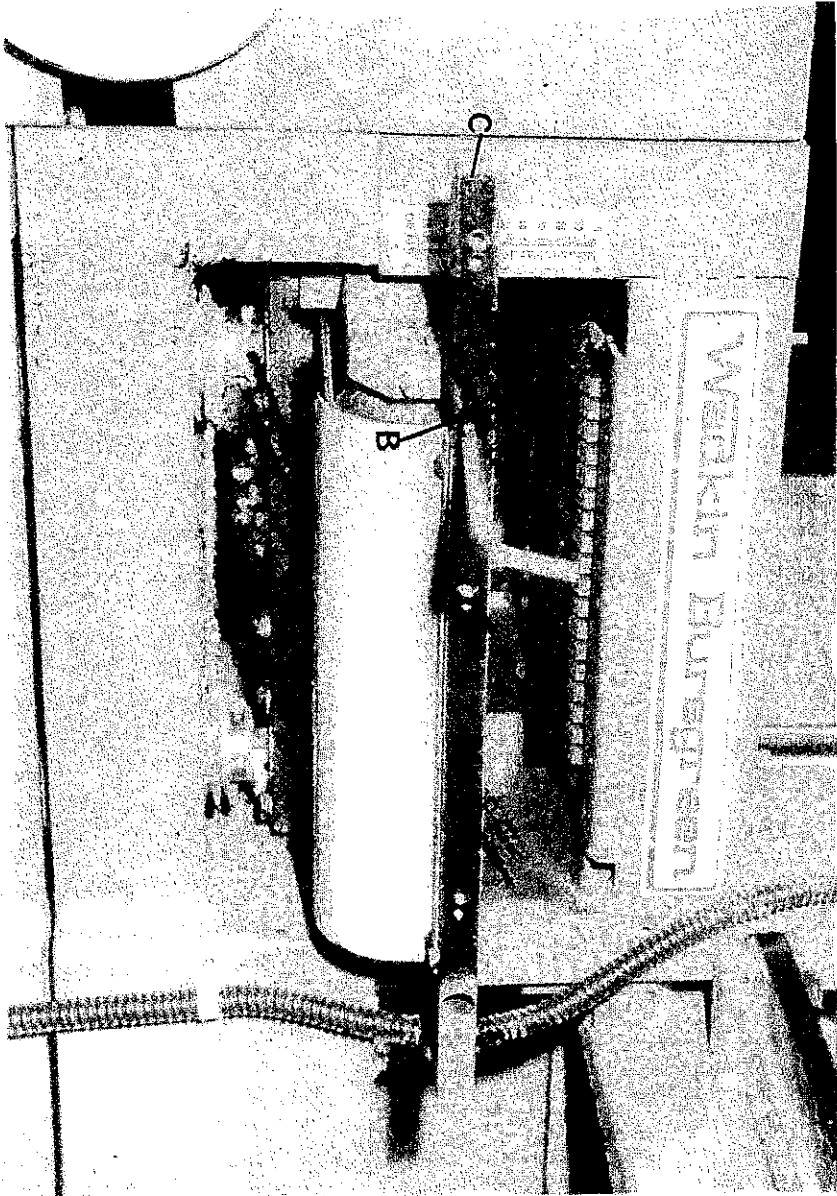

Fig 35
- 8) Remove 2 - M10 cap head screws "B" and rule support "C" complete FIG.35.